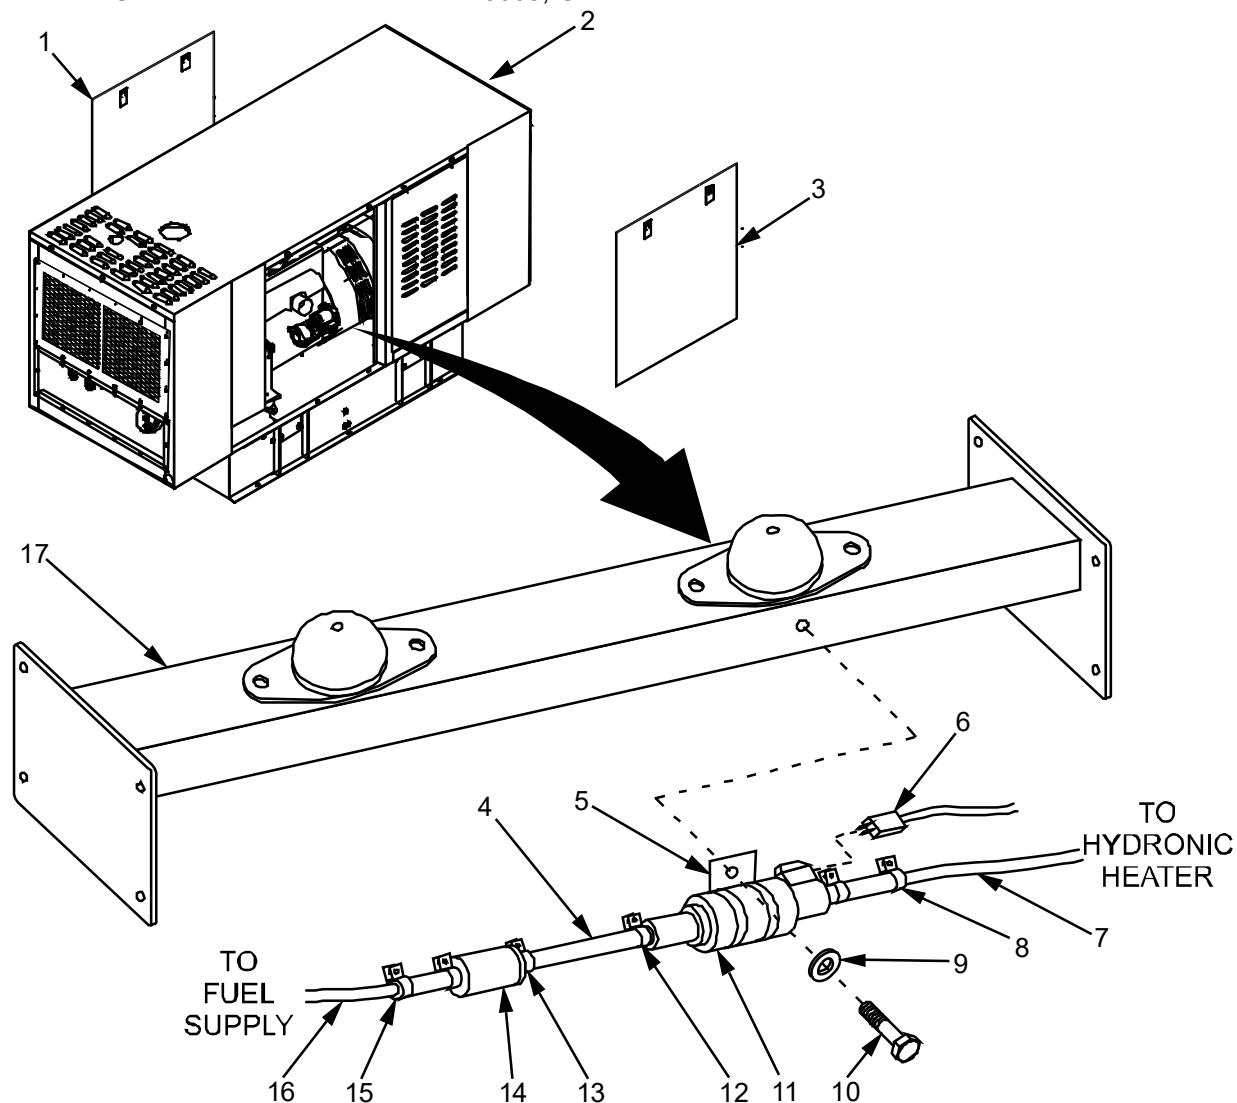

Figure 2. Engine Block Heater Fuel Pump and Fuel Filter - Replace.
9. Connect battery ground cable (black) (WP 0056, Figure 2, Item 26) to battery.
1. Verify that Genset (Figure 2, Item 2) has been shut down, engine is cool, and that BATTERY SWITCH is set to OFF (WP 0005, Genset Shut Down Procedure).
3. Remove front and rear access panels (Figure 2, Items 1 and 3) of Genset (Figure 2, Item 2) and set aside.
4. Disconnect battery ground cable (black) (WP 0056, Figure 2, Item 26) from battery.
5. Disconnect electrical cable (Figure 2, Item 6) from fuel pump (Figure 2, Item 11).
6. Loosen hose clamp (Figure 2, Item 8) and disconnect fuel line (Figure 2, Item 7) (heater side) from fuel pump (Figure 2, Item 11). Guide fuel line (Figure 2, Item 7) to drain pan and allow fuel to drain.
7. Loosen second hose clamp (Figure 2, Item 12) and disconnect fuel line (Figure 2, Item 4) (filter side) from fuel pump (Figure 2, Item 11). Guide fuel line (Figure 2, Item 4) to drain pan and allow fuel to drain.
8. Remove and retain bolt (Figure 2, Item 10) and flat washer (Figure 2, Item 9) that secures fuel pump (Figure 2, Item 11) and clamp (Figure 2, Item 5) to frame (Figure 2, Item 17).
9. Remove fuel pump (Figure 2, Item 11) and clamp (Figure 2, Item 5).
- Inspect engine block heater fuel filter (Figure 2, Item 14). Ensure that fuel filter (Figure 2, Item 14) is not excessively dirty, worn or is in need of other servicing.
Verify that fuel pump (Figure 2, Item 11) is installed in the proper direction. Arrow should point towards fuel line going to engine block heater.
1. Install clamp (Figure 2, Item 5) onto fuel pump (Figure 2, Item 11). Secure assembly to frame (Figure 2, Item 17) with bolt (Figure 2, Item 10) and flat washer (Figure 2, Item 9).
2. Connect fuel line (Figure 2, Item 4) (filter side) to fuel pump (Figure 2, Item 11) and secure with clamp (Figure 2, Item 12).
3. Connect fuel line (Figure 2, Item 7) (heater side) to fuel pump (Figure 2, Item 11) and secure with hose clamp (Figure 2, Item 8).
4. Connect electrical cable (Figure 2, Item 6) to fuel pump (Figure 2, Item 11).
5. Clean up any excess spillage from base of Genset (Figure 2, Item 2).
6. Connect battery ground cable (black) (WP 0056, Figure 2, Item 26) to battery.
7. Install and secure front and rear access panels (Figure 2, Items 1 and 3).
3. Remove front and rear access panels (Figure 2, Items 1 and 3) of Genset (Figure 2, Items 2) and set aside.
5. Loosen hose clamp (Figure 2, Item 13) and disconnect fuel line (Figure 2, Item 4) (fuel pump side) from fuel filter (Figure 2, Item 14).
6. Loosen second hose clamp (Figure 2, Item 15) and disconnect fuel line (Figure 2, Item 16) (fuel tank side) from fuel filter (Figure 2, Item 14).
- Inspect engine block heater fuel pump (Figure 2, Item 11). Ensure that the fuel pump (Figure 2, Item 11) is not excessively damaged or otherwise appears to be unserviceable.
When performing the following steps verify that fuel filter (Figure 2, Item 14) is installed in the proper direction. Arrow should point towards fuel line going to engine block heater.
1. Connect fuel line (Figure 2, Item 16) (fuel tank side) to fuel filter (Figure 2, Item 14) and secure with hose clamp (Figure 2, Item 15).
2. Connect fuel line (Figure 2, Item 4) (fuel pump side) to fuel filter (Figure 2, Item 14) and secure with hose clamp (Figure 2, Item 13).
4. Connect battery ground cable (black) (WP 0056, Figure 2, Item 26) to battery.
5. Install and secure front and rear access panels (Figure 2, Items 1 and 3).
6. Disconnect battery ground cable (black) (WP 0056, Figure 2, Item 26) from battery.
5. Connect battery ground cable (black) (WP 0056, Figure 2, Item 26) to battery.